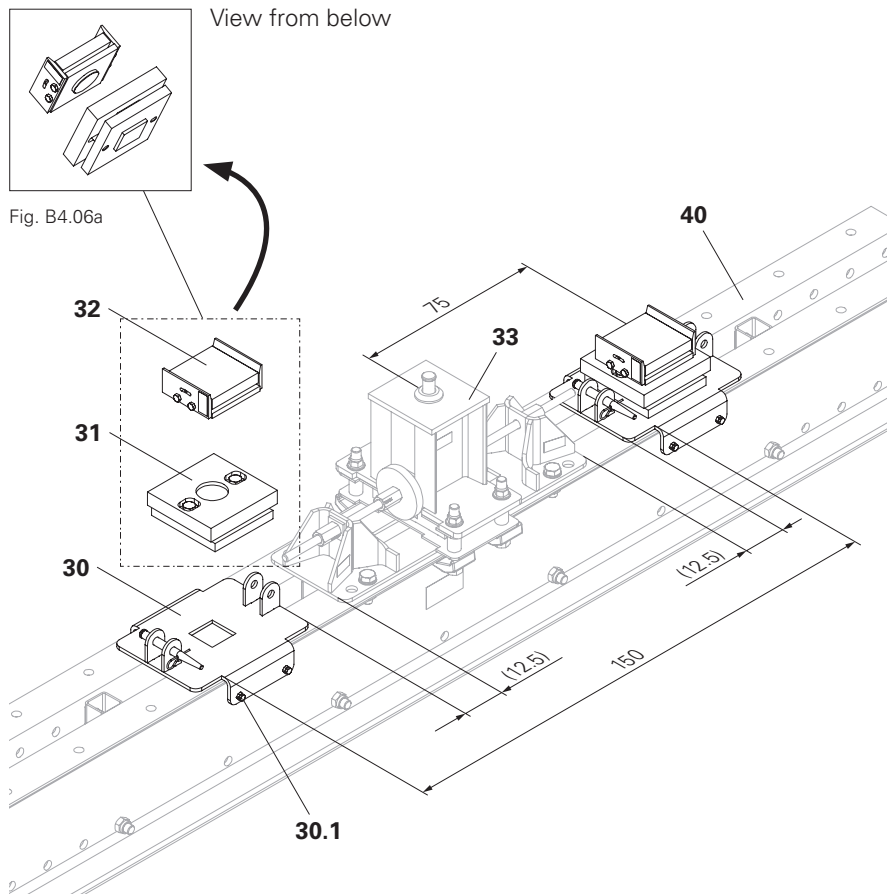

Fig. B4.06
- (Fig. B4.06)
- The spacing of both supports is 150 cm (Fig. B4.06).